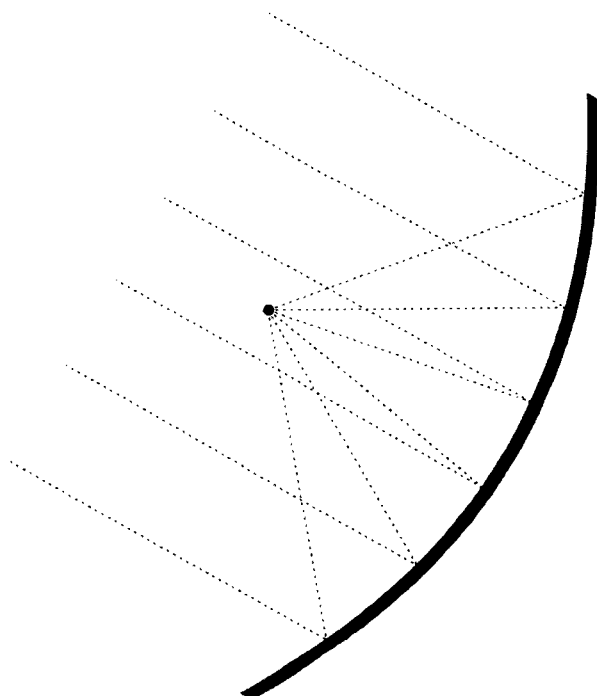

Fig 1—A parabolic dish aimed at a satellite.
1. A 30-inch conventional dish at 10 GHz, with a measured gain of 36.4 dBi and efficiency of 64%. The estimated spillover efficiency is 87% for a 10-dB illumination taper. With the dish pointing at a high elevation, as shown in Fig 1, perhaps half of the spillover is illuminating Earth at 290 K, which adds an estimated 19 K to the 6 K of sky noise, for a total of 25 K. In a